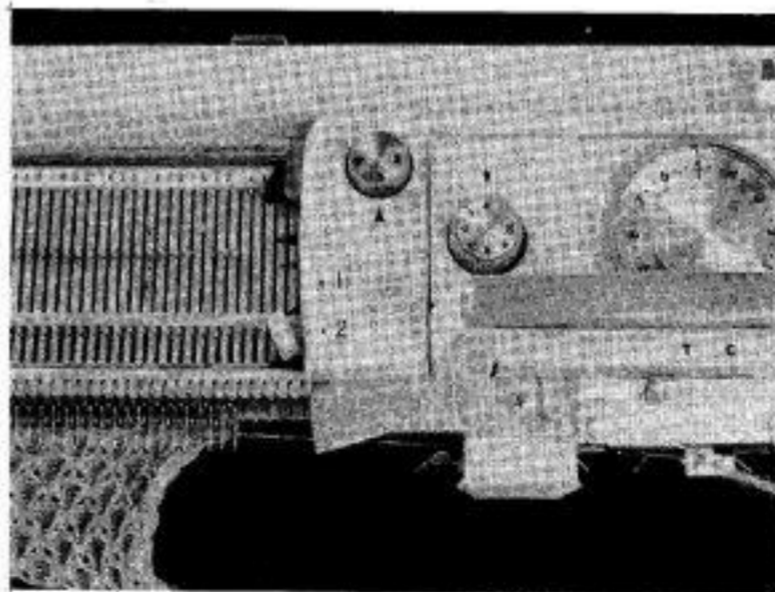

Fig. 32
\* **1st row** Carriage on right. Push back into Position (B) the 4th needle from the right-hand end. This needle will be that opposite No. 4 on the N.S.G.S. (Fig. 32)
**2nd row** Carriage on left. Push back into Position (B) that needle opposite the first No. 4 on the N.S.G.S. reading from left to right of the working needles. Knit 1 row.
**3rd row** Carriage on right. Push back into Position (B) the 4th needle from the right end opposite No. 4 on the N.S.G.S. Fig. 32 and knit 1 row.
**4th row** Carriage on left. Push back into Position (B) the end needle opposite No. 4. Knit 1 row.